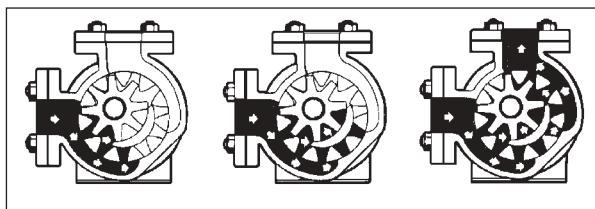

fig. 2
Figure 2 shows that the idler gear rotates inside the liquid and
The liquid which fills the spaces created between the gears in the suction area (figure 2) is carried between the gear teeth towards the discharge port. The two gears are eccentric and the space between them is taken up by a crescent on the front cover. At the discharge port, the gears mesh and the liquid is expelled. Since the pump is perfectly symmetrical it is evident that if the direction of rotation is changed, the flow will also change direction. The pump is therefore reversible.
This is done by positioning the two threaded lock rings which lock the rear bearing (items 3 and 4 in figure 2). The position of the rotor with reference to the cover is adjusted by changing the axial position of the ball bearing. For further details refer to the instructions for the use of the various models.